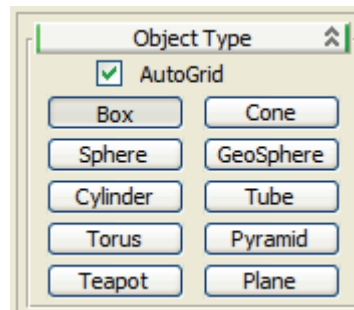

Figure 3–32
- You can also create objects in AutoGrid mode, which creates a temporary Grid aligned in 3D to the object directly under the crosshairs. The option to enable **AutoGrid** is located in the *Create* tab, in the Object Type rollout, as shown Figure 3–32 (AutoGrid is similar to the Dynamic UCS feature introduced in AutoCAD 2007). If you hold down <Alt>, the AutoGrid remains available for future use. If you use AutoGrid without any key pressed, the grid disappears after object creation.